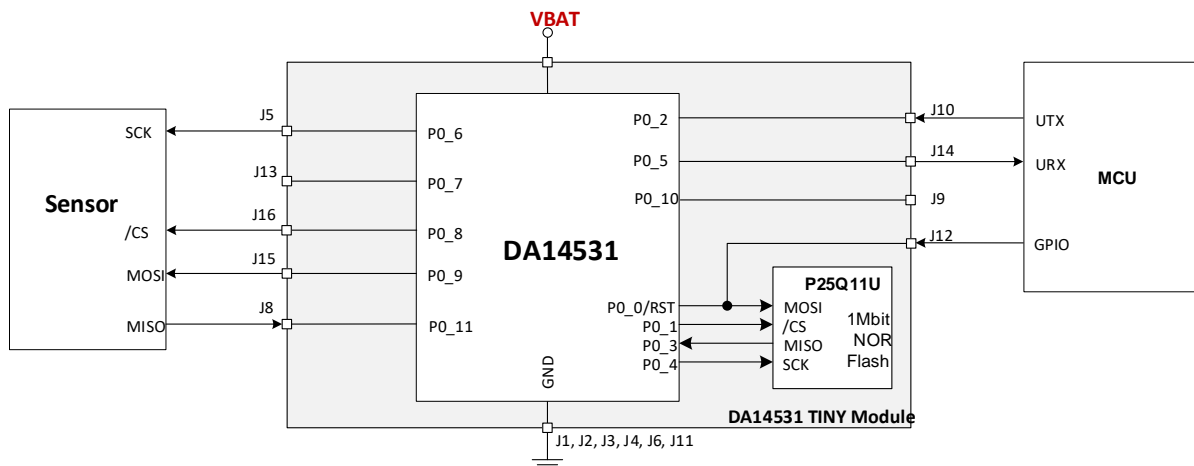

Figure 11: Example of Connecting a Sensor to the SPI Bus and an MCU to RST and UART
- The SPI Bus of DA14531 is used for the communication of the SoC with the NOR Flash at boot time. Three of the four signals are not driven to external module pins. For this reason, a sensor that utilizes the SPI bus must be assigned (by software) on to the module pins to communicate with after boot is completed and when NOR Flash is no longer in use. An example is given in Figure 11